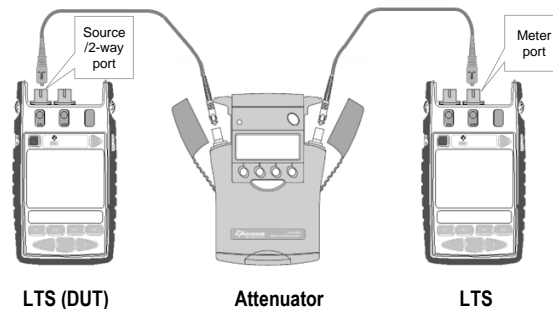

Figure 14. Test set up for One Way Range and Linearity Test
1. Connect the equipment as shown in Figure 14. A single LTS can also be used, with connections to both ports.